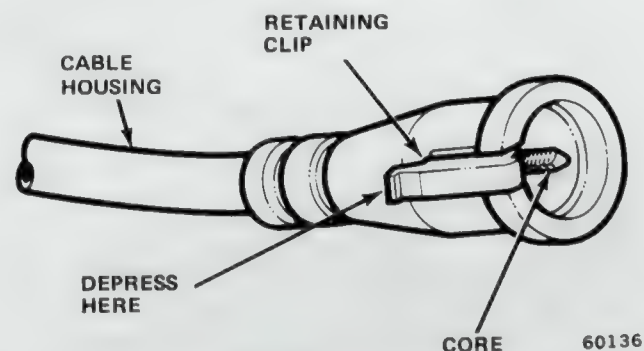

Fig. 3C-4 Disconnecting Speedometer Cable
- (1) Disconnect battery negative cable.
- (2) Remove instrument cluster bezel with a straight, firm pull (fig. 3C-2).
- (3) Remove radio control knobs and nuts.
- (4) Remove radio overlay retaining screws.
- (5) Remove headlamp switch overlay screws.
- (6) Pull headlamp switch rearward and disconnect speedometer cable (fig. 3C-4).
- (7) Remove instrument cluster retaining screws.
- (8) Disconnect instrument panel wire harness connectors.
- (9) Remove steering tube cover (column shift automatic only).
- (10) Disconnect gear selector dial cable from steering column, if equipped, and remove cluster assembly.